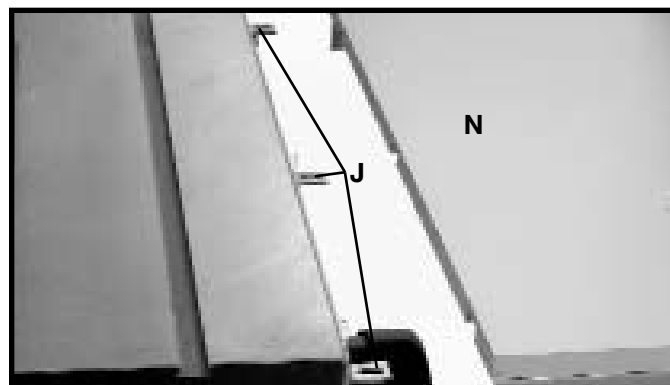
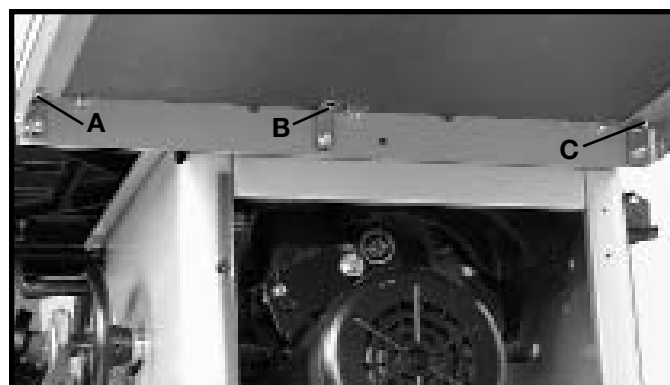

Fig. 13
Fig. 14
9. Assemble the table (N) to the three brackets (J) Fig. 13, using three #8x7/8" screws (A), (B), and (C), Fig. 14.
NOTE: The two screws (B) and (C), Fig. 14, can be tightened and screw (A) Fig. 14, should be left slightly loose at this time.